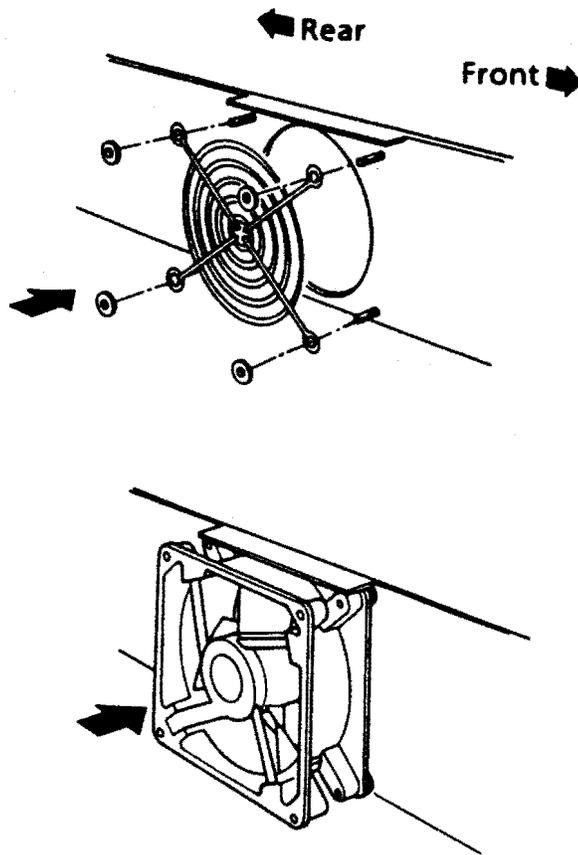

Figure 4-27: Rear Fan Installation
2. Place the guard over the screws, with the circular wires of the guard against the chassis (Figure 4-27).